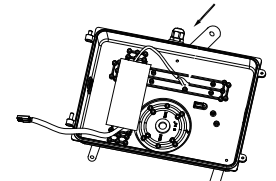

Figure 2
2. Choose an appropriate connoction hole according to your requirements. Loosen the plug, and then fie the waterproof connector from the accessories; rotate the three mounting kits to the proper angle . (Figure2)